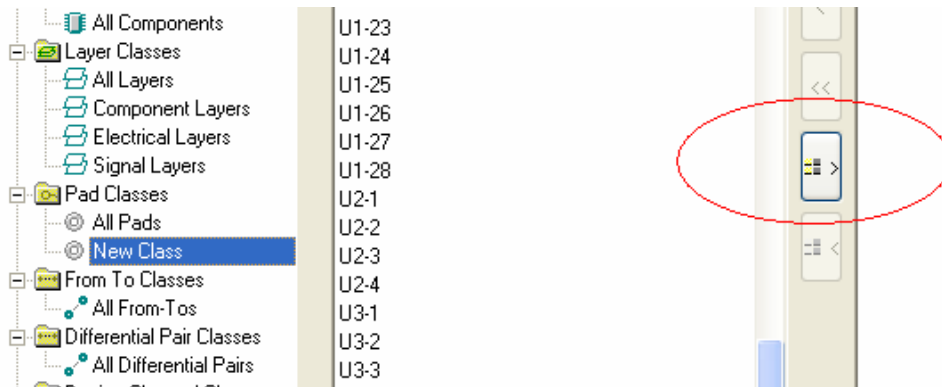

Figure 2. The selection button enabled.
- Note that there are transfer buttons for selected objects; often it is easier to select the objects in the workspace first, then use these transfer selected buttons to build the class. If you have created a selection before hand using *Find Similar objects*, *PCB panel*, *list panel* etc, then the button shown in Figure 2 should enable. Pressing this button shifts the selection from the non-members column to the members column.